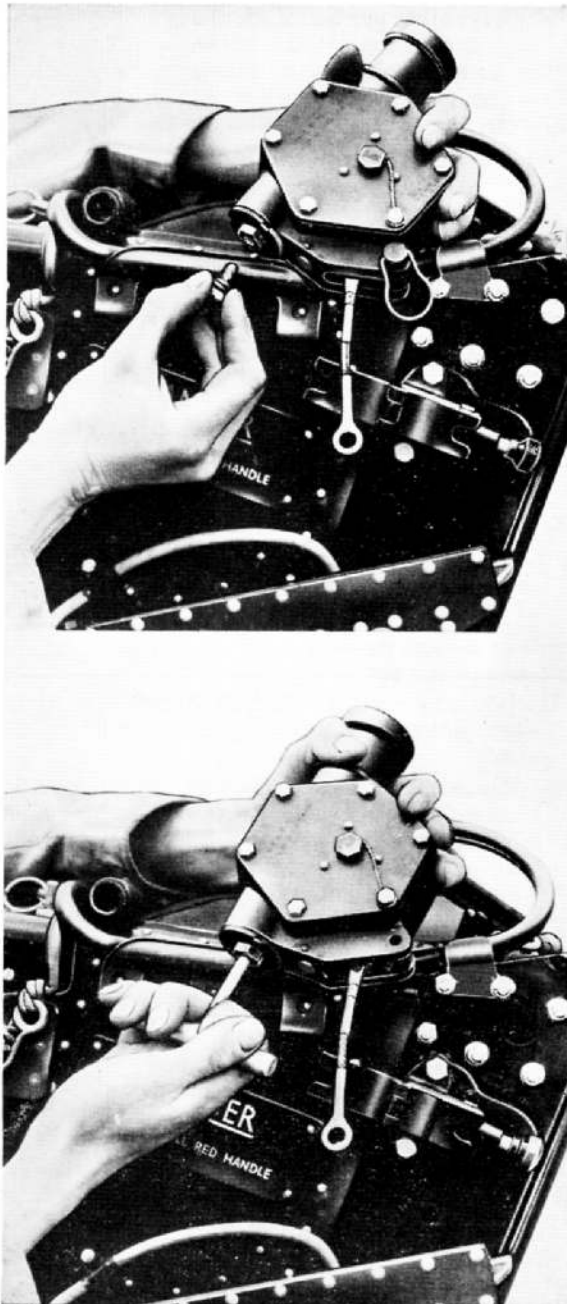

Fig. 12. Re-setting drogue gun time-delay mechanism
- (2) Remove the stud at the bottom of the casing (fig. 12).
- (3) Insert the cocking tool into the stud hole, screw to the right and then pull downwards until the gear train stops revolving.
- (4) Replace the stud and insert the quick-release pin in the safety lock.